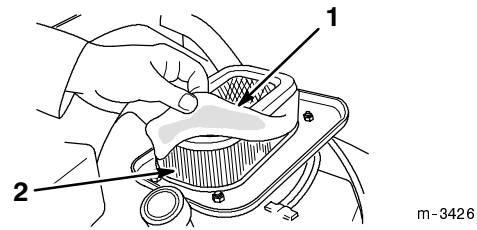

Figure 27
5. Remove the elements and separate the foam element from the paper element (Fig. 27).
1. Carefully slide the foam element onto the paper air cleaner element (Fig. 27).